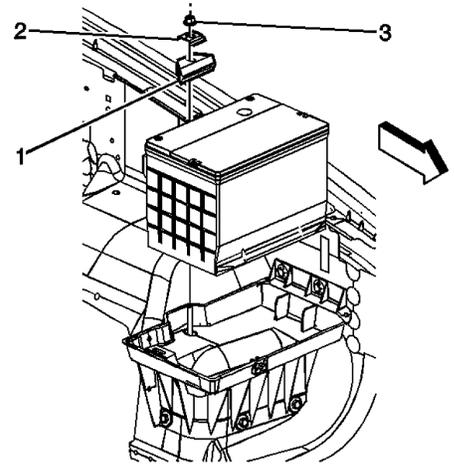

Fig. 6 Battery hold down
13. Remove battery hold down nut (3), retainer (1), and washer, **Fig. 6**.
2. Install battery hold down retainer (1), nut (3), and washer, **Fig. 6**. **Torque** nut to 11 ft. lbs.